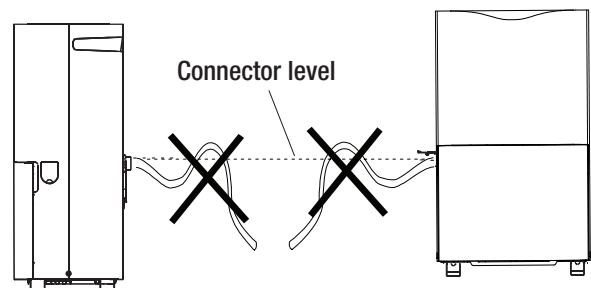

Figure 5
- ❑ Place the other end of garden hose into a floor drain. Check to see that the hose lies flat and is in the drain (8). Make sure all the parts of the hose is on a lower level (7) than the hose connector on the dehumidifier. (Figure 4) Also, the outlet of the hose should be at least 5.5 in. lower than the hose connector. The hose should not be kinked or pinched. (Figure 5)